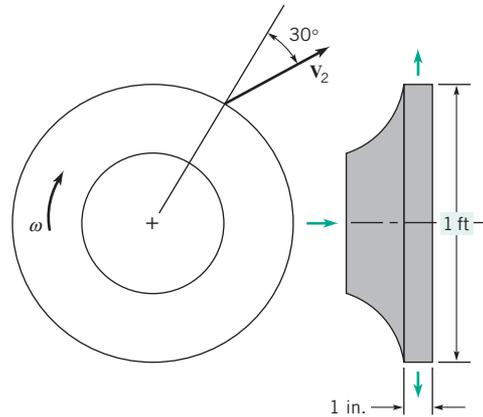

FIGURE P11.9
11.9 A centrifugal pump impeller is rotating at 1200 rpm in the direction shown in Fig. P11.9. The flow enters parallel to the axis of rotation and leaves at an angle of 30° to the radial direction. The absolute exit velocity,  $V_2$ , is 90 ft/s. (a) Draw the velocity triangle for the impeller exit flow. (b) Estimate the torque necessary to turn the impeller if the fluid density is 2.0 slugs/ft3. What will the impeller rotation speed become if the shaft breaks?